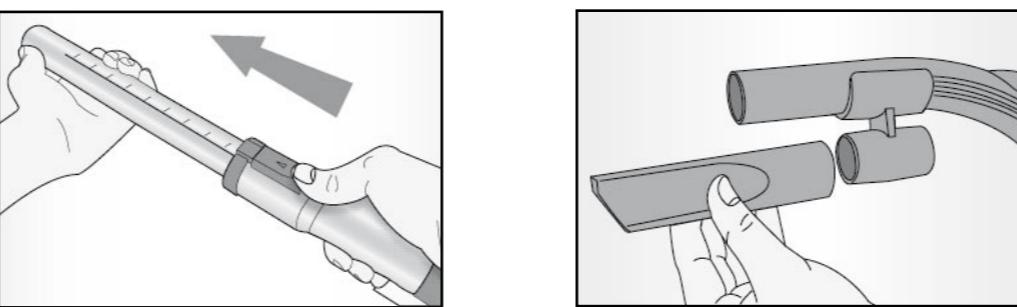

Fig. 5
Put the appliance away, fitting the attachment storage compartment (15) on the handle (18) and hooking on the narrow suction nozzle (17) and small suction device with brush (16) (Fig. 5).